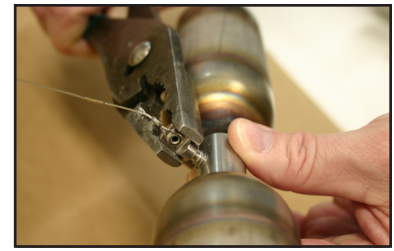

Figure 5
21. Next, you need to attach the float to the cable screw on the end of the gauge cable. Unscrew the cable bullet exposing the cable screw threads. The cable bullet is now no longer needed and can be discarded. Using the small tube of adhesive provided, place a drop or two of the adhesive onto the male threads, of the cable screw. Thread the float onto the cable screw and, while using pliers to carefully hold the float connector, snug the float onto the cable screw (See Figure 5). **NOTE: Make sure to not damage the cable with the pliers.**